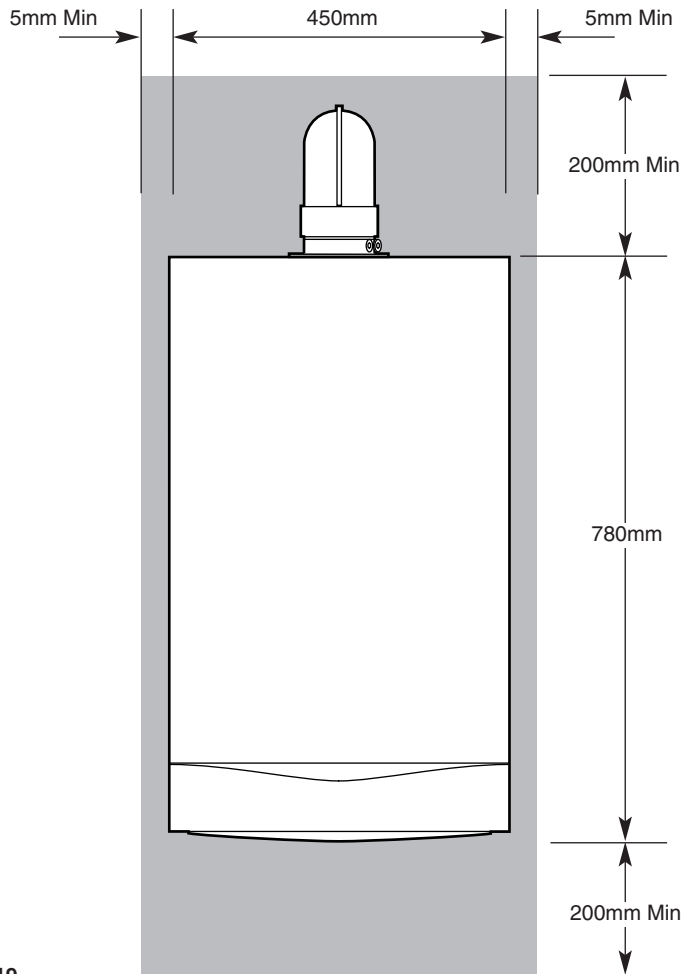

Fig. 19
4.1 Clearances around the Boiler (Figs. 19 & 20)